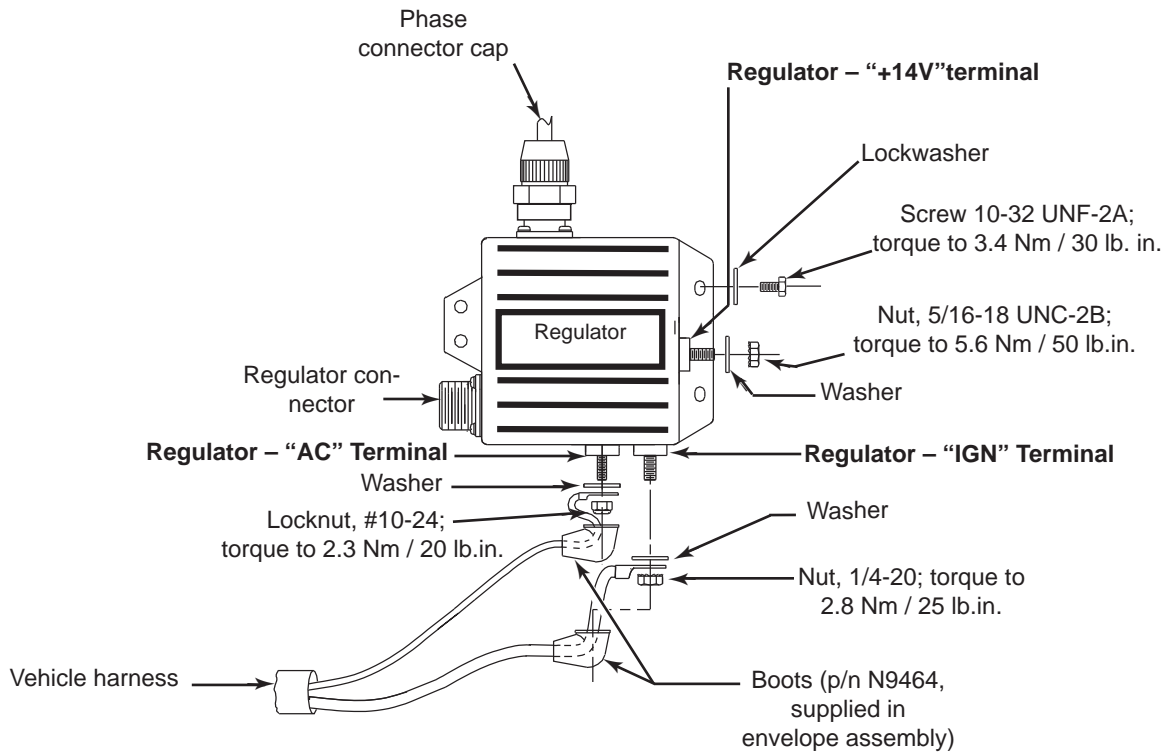

Figure 2a – Regulator **Single Voltage** Wiring Connections
2. Connect as shown on this page in Figures 2a-c.